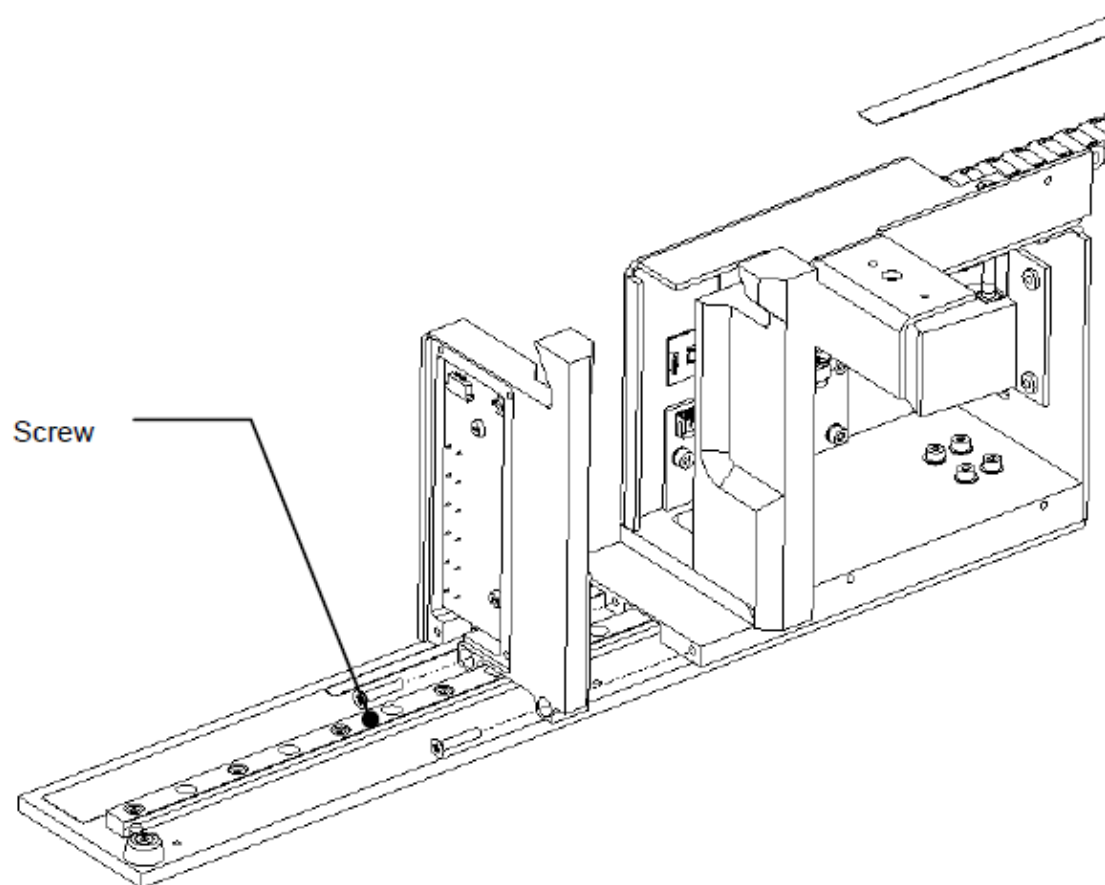

Figure V-7: Removing the Photodiode Housing Assembly
2. Remove the Photodiode Housing Assembly from the Carriage Assembly by removing the two M3x16 Pozi Head Flat Screws (Figure V-7).